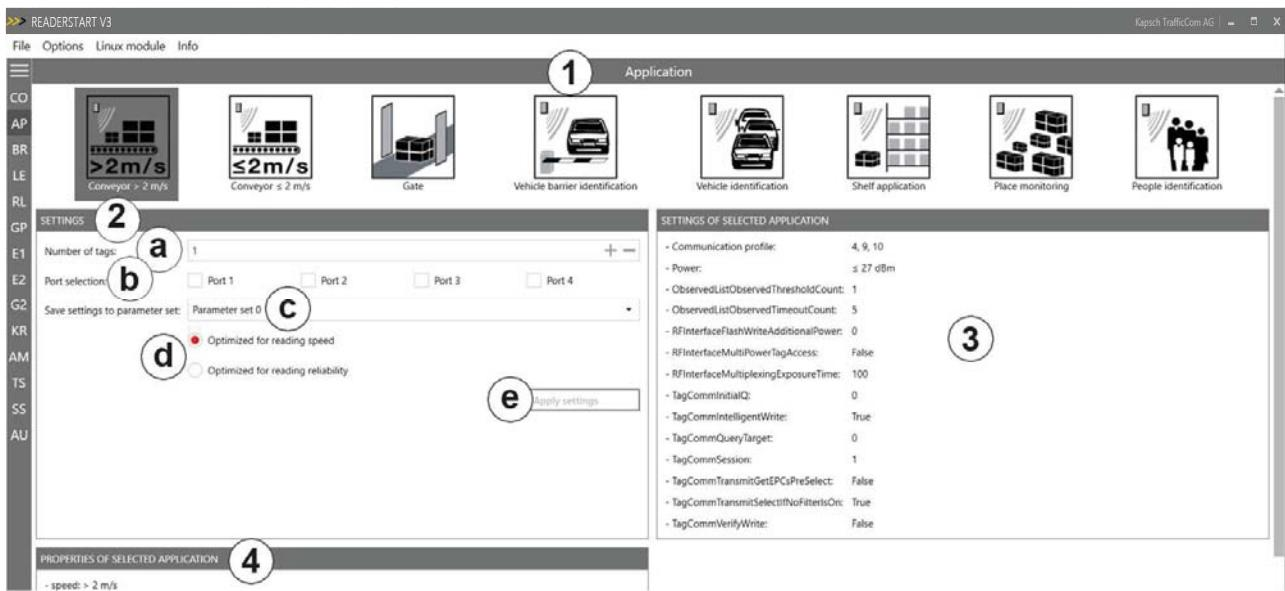

Figure 30 Application Tab
① Application	<p>selects between the available applications represented visually by means of labelled pictograms</p> <ul style="list-style-type: none"> <li>▶ Click on a pictogram to select the application.</li> <li>⇒ The selected pictogram is marked in a darker color, in Figure 30 it is Conveyor &gt; 2 m/s.</li> </ul>
② Settings	<p>changes setting of the selected application</p> <ul style="list-style-type: none"> <li>ⓐ number of the expected tags selects the antenna to be used</li> <li>ⓑ ▶ Check Ports 1-4 to select the antenna port. It is possible to select one, several or all ports.</li> <li>ⓒ selects the parameter set in which the configuration is saved</li> <li>ⓓ Sets the values for max. reading speed or max. reading reliability</li> <li>▶ Click Optimized for reading speed or Optimized for reading reliability.</li> <li>⇒ The values in Settings of selected application (③ in Figure 30) change.</li> </ul> <p>When the max. read frequency is set (Optimized for reading speed is activated), the number of readings is maximized. In this case, the same tag can be read several times, because all tags will be reset in the inventory so that they will respond again. Because of reading the same tag multiple times, in a scenario of moving tags it could happen that not all the tags crossing the antenna field are read. The frequency of detection of the same tag is increased. In some cases, the time allowed for detecting the tags may be insufficient, so that some transponders are not detected.</p> <p>When the max. read reliability is set (Optimized for reading reliability is activated), tags that have already been read are not read again in the next inventory, provided they are still being supplied with power. This means that only the tags which have not yet been registered are detected. This way, the probability that all tags are read is increased.</p>